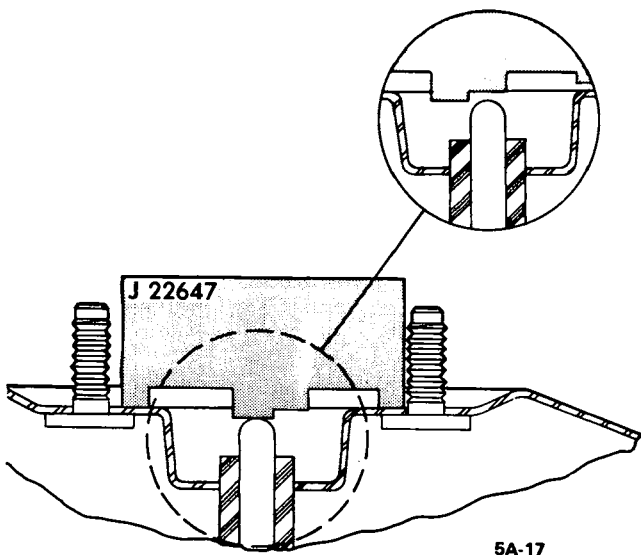

Figure 5A-17 Gaging Piston Rod
5. Place Gage J-22647 over the piston rod in a position which will allow the gage to be slipped to the left or right without contacting the studs. See Figure 5A-17.